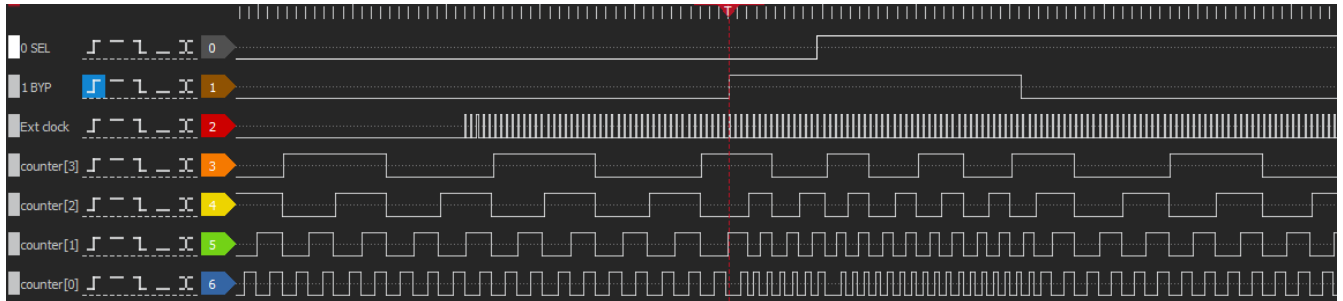

Figure 5: Change in sel and byp line to produce PLL_FOUT of different frequencies
9. Connect the Development Board and attach it to Adaptor Board with the SLG47910 part in the socket on it. Click on the Debug button on the ForgeFPGA Workshop studio (Figure 5) and select Emulation.
10. Connect the GPIO2 to the Synchronous Logic Generator, Configure GPIO0 and GPIO1 as buttons or synchronous Logic Generators to function as sel and byp signals for PLL_CLK_CTRL_SEL and BYP_SEL and then observe the output from GPIO3, GPIO4, GPI5 and GPIO6 on logic analyzer. In Figure 5 it can be observed that when there is a change in the sel and byp signals, then there is a corresponding change in the frequency of the switching of the counter depicting that the PLL is being driven by 2 different clock sources.